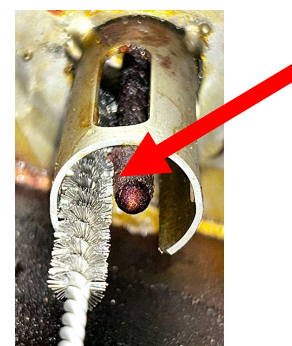

Figure 1A
2. Use the OIB cleaning brush (8263841) to clean carbonized oil off the sensor (see Figure 1A).